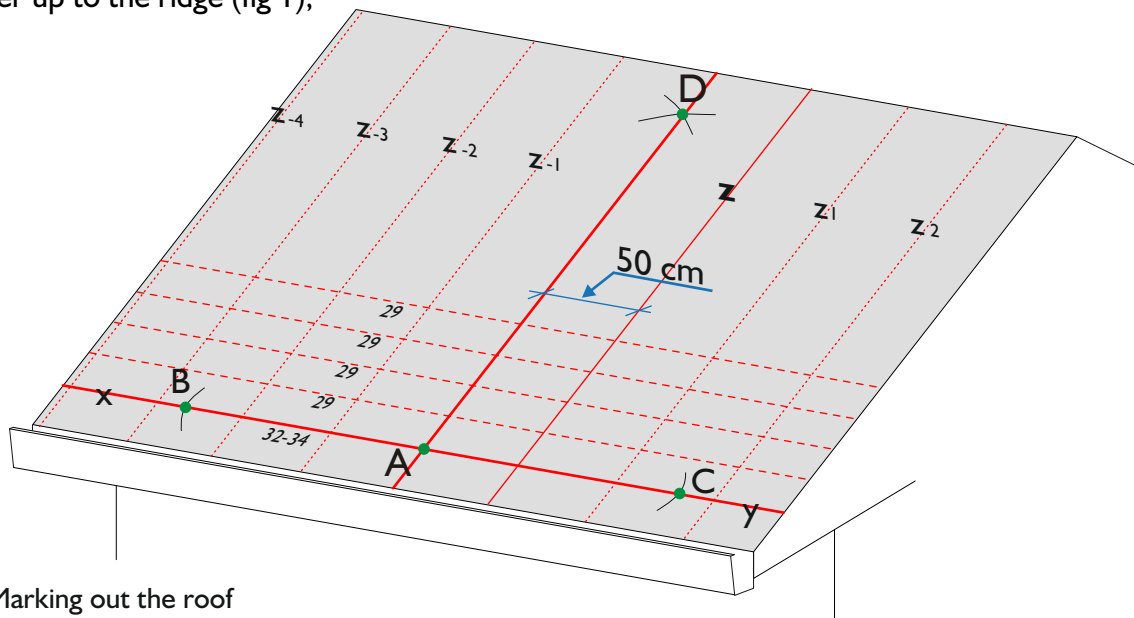

Fig. 1 - Marking out the roof
- Starting from the line xy, mark horizontal and parallel lines to the line xy, at a distance of 29 cm from each other up to the ridge (fig 1);